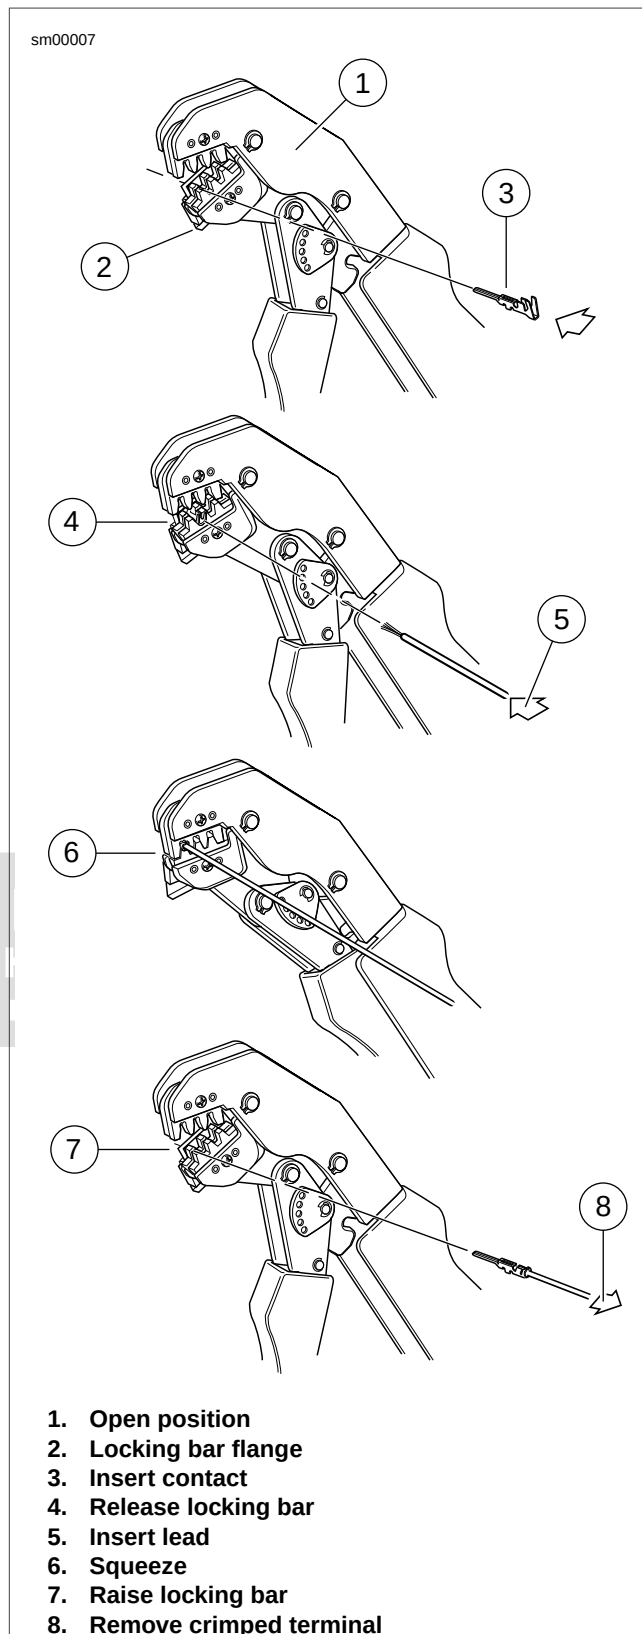

Figure A-8. AMP Multilock Connector: Terminal Crimping Procedure
1. See Figure A-8. Squeeze the handles to cycle the AMP MULTILOCK CRIMPER (Part No. HD-41609) to the fully open position (1).
2. Raise locking bar by pushing up on bottom flange (2).
3. See Figure A-8. With the insulation crimp tail facing upward, insert terminal (pin or socket) (3) through the locking bar, so that the closed side of the terminal rests on the nest of the crimp tool.
4. Release locking bar to lock position of contact (4). When correctly positioned, the locking bar fits snugly in the space at the front of the core crimp tails.
5. Insert stripped end of lead (5) until ends make contact with locking bar.
8. Raise up locking bar (8) and remove crimped terminal.